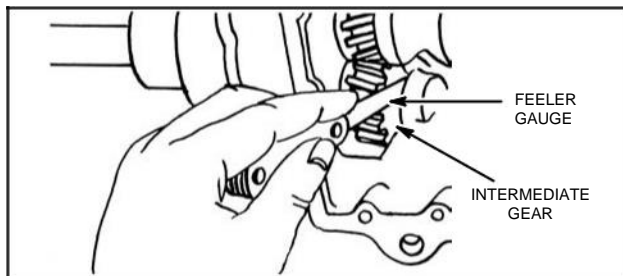

Fig. 122
7. Check end play of intermediate gear by inserting feeler gauge as shown in Fig. 122. End play should be .002"-.008". Note amount of end play.